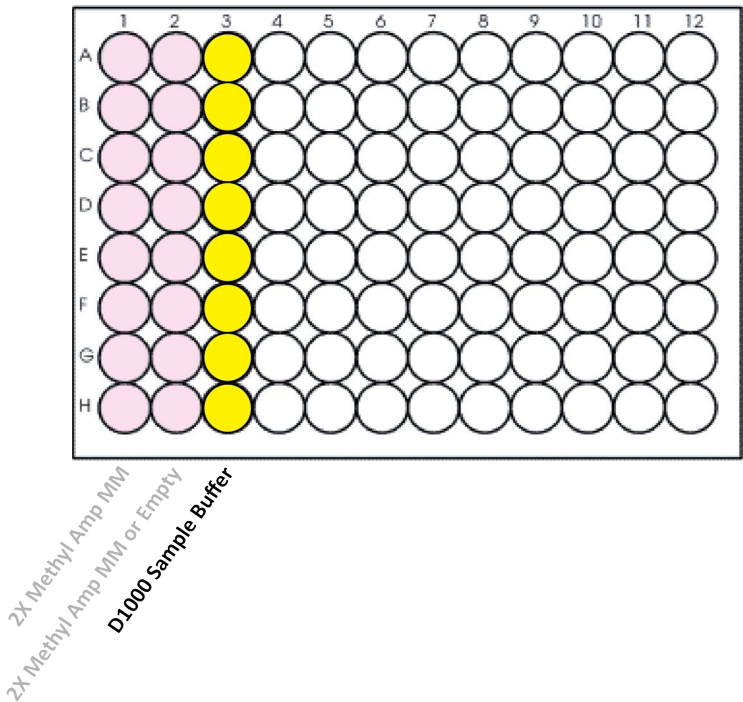

Figure 7 Configuration of the Sample Buffer source plate for protocol TS_D1000. Columns 1–2 were used in the previous protocol.
- 5 For the Sample Buffer source plate, use the same **processing plate** (Eppendorf twin.tec or Armadillo) that was used as the 2X Methyl Amplification Mastermix source plate in the PCR indexing protocol. Prepare the Sample Buffer source plate at room temperature. Add the volume of D1000 Sample Buffer indicated in Table 49 to each well of column 3 of the plate. The final configuration of the Sample Buffer source plate is shown in Figure 7.